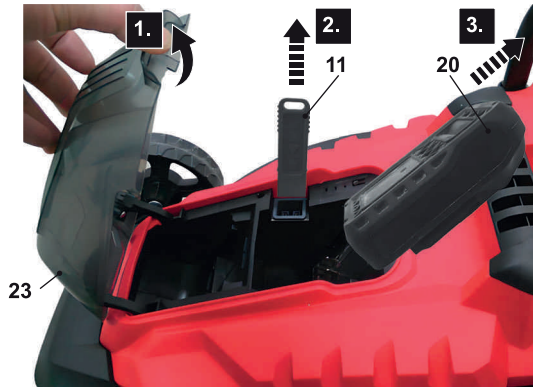

Fig. 16
1. Open the transparent cover (23), then remove the safety key (11) and battery pack (20) (Fig. 16).